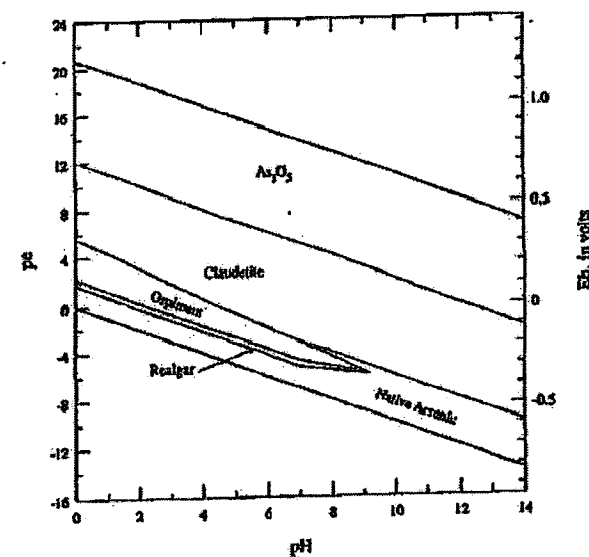

Figure 3. pe-pH diagram for equilibrium mineral stabilities in the As-O-S-H₂O system at 298.15 K and 1 atmosphere pressure. Total dissolved sulfur = 10^{-4} m .
Figure 3 shows the sequence of stable minerals from fully oxidized arsenic pentoxide to fully reduced native arsenic in the presence of 10^{-4} m total dissolved sulfide. Native arsenic has a narrow stability field only under the strongest reducing conditions, consistent with field observations except that in the field it seems to form at higher temperatures than 25°C . No mineral corresponds with As(V) oxide because it is extremely soluble (about 40 grams per 100 grams of solution, Menzies and Potter, 1912) and the addition of the type of divalent cations commonly found in surface and ground waters would promote the precipitation of metal arsenates that are less soluble than the pentoxide (e.g. calcium arsenate precipitation, Nishimura and Robins, Dunning, 1988; Nishimura and Robins, 1998).